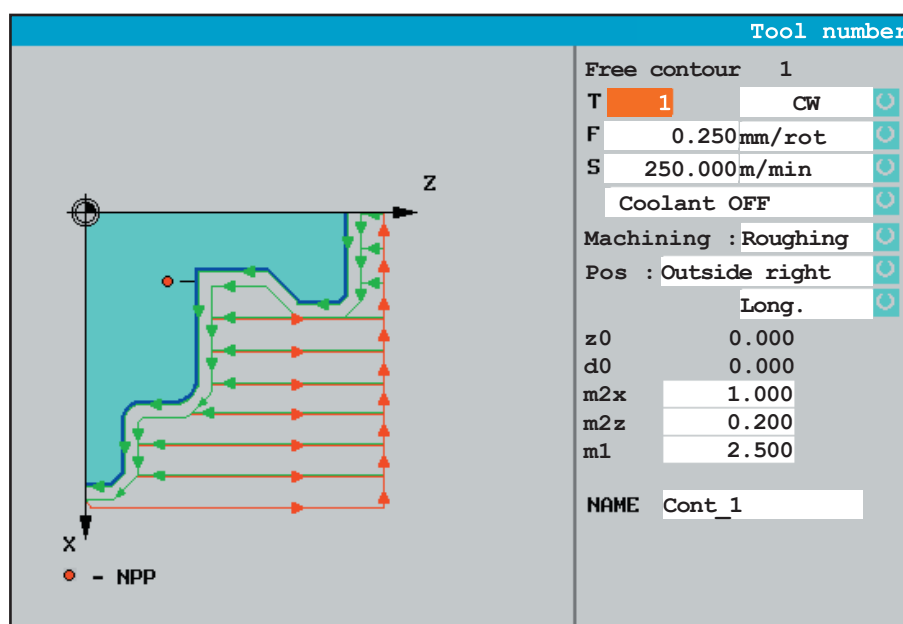

Figure 3-1. Free Contour Cycle Screen
- Fill in cycle **data**, according to figure3-1